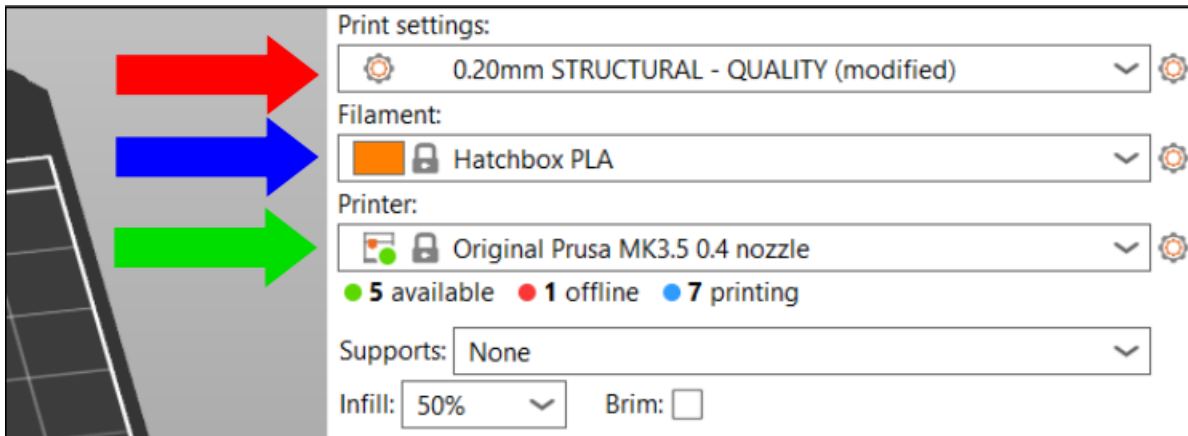

Figure 4. Main Plate Settings
6.) Go back to the “Plater” tab in the top left corner of PrusaSlicer. Then click the “Print settings” drop-down menu and select the 0.20mm Structural option (see red arrow in Figure 4).
7.) Open the Filament drop-down menu (see blue arrow in Figure 4) and select the filament type you want to print in.
8.) Open the Printer drop-down menu (see green arrow in Figure 4) and select your printer make and model.